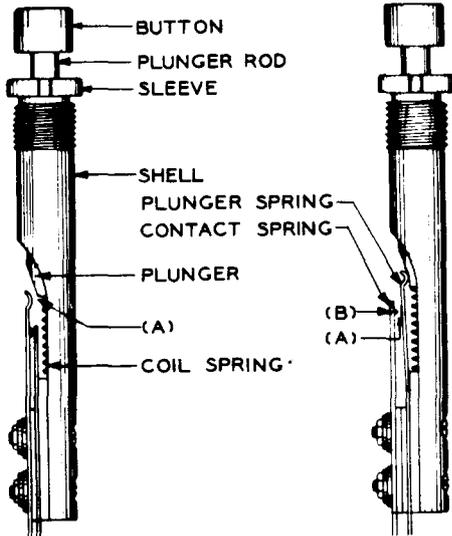

Fig. 5
- * 2.04 Clearance Between Plunger Spring and Plunger (223B, D, and E Keys Only): Fig. 5 (A) - With the key in its normal position there shall be a clearance between the plunger spring and plunger in at least one position of the plunger.